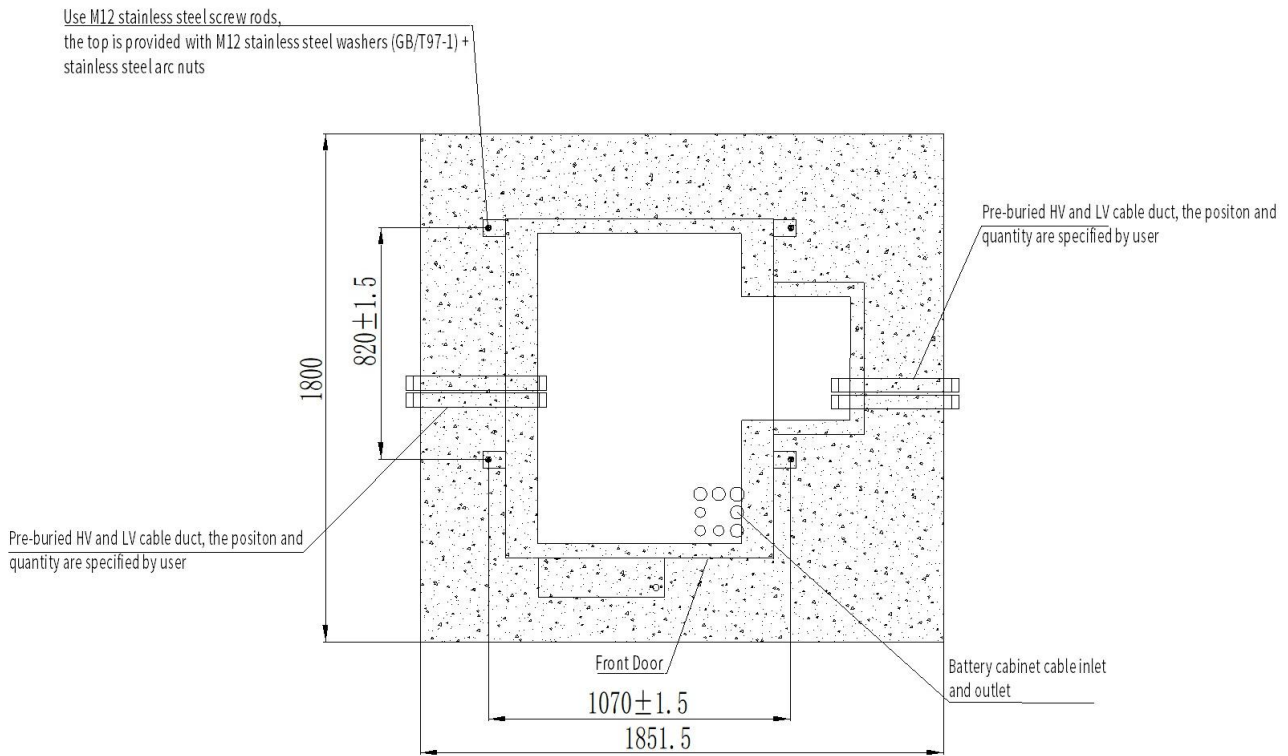

Figure 5-2 Concrete foundation
As shown in Figure 5-2, each cabinet has four fixed points.
- As shown in figure 5-2, each cabinet has four fixed points;